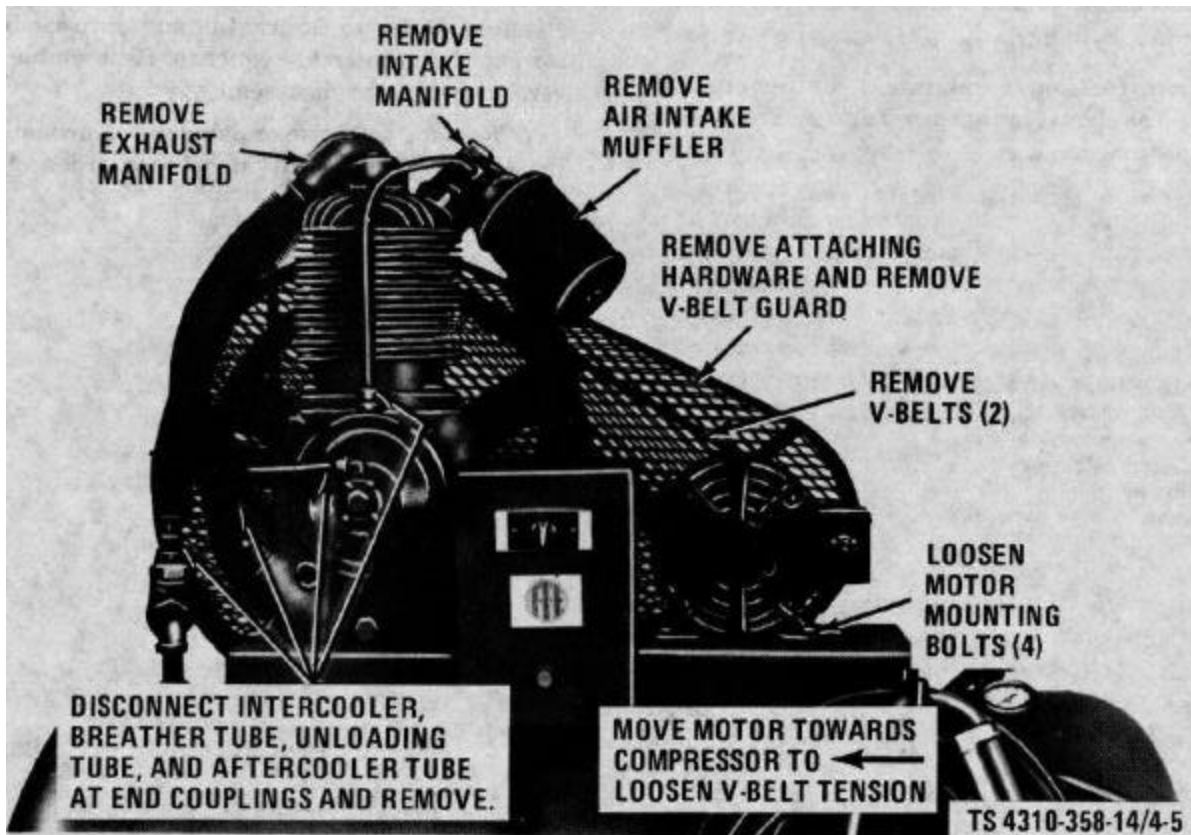

Figure 4-5. Compressor components and v-belt drive.
(1) Use a cloth dampened in cleaning solvent, P-D-680, to remove oil and dust from the belts.
(2) If the belts have become saturated with oil and dirt, replace with a new set.
c. Removal. Refer to figure 4-5 and remove v-belts as follows:
(1) Remove attaching hardware and remove v-belt drive guard.
(2) Loosen motor mounting bolts and move motor towards compressor to loosen v-belt tension.
(3) Remove v-belts.
d. Installation. Refer to figure 4-5 and install v-belts as follows:
(1) Install v-belts on compressor and motor pulleys.
(2) Move motor away from compressor increasing v-belt tension. Make sure pulleys are in correct alignment. Tighten motor mounting bolts slightly.
(3) Press on the v-belts with your fingers midway between the motor drive pulley and the compressor flywheel. Proper v-belt tension is when the belt deflection is no more than one-half inch.
(4) When proper belt tension is obtained tighten motor mounting bolts securely.
(5) Install v-belt drive guard and attaching hardware and tighten securely.
(a) Loosen motor mounting screws (fig. 4-5). It is not necessary to remove the mounting screws.
a. Removal. Refer to figure 4-5 and remove air intake muffler as follows:
c. Installation. Install intake muffler on intake manifold as shown in figure 4-5 and secure by tightening setscrew.